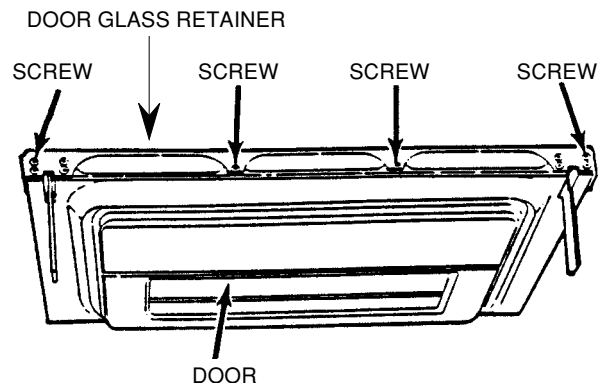

Figure 4-20
4. Position the door upside down so that it rests on the top of the handle assembly, (see Figure 4-20), and remove the four screws from the door glass retainer.